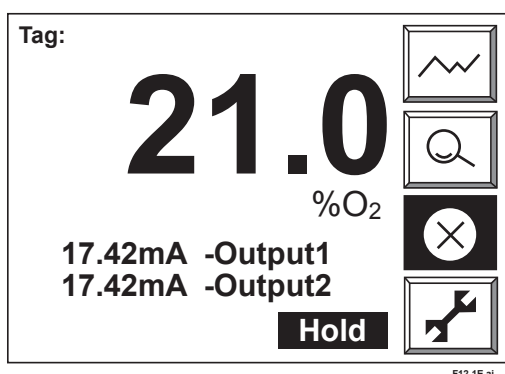
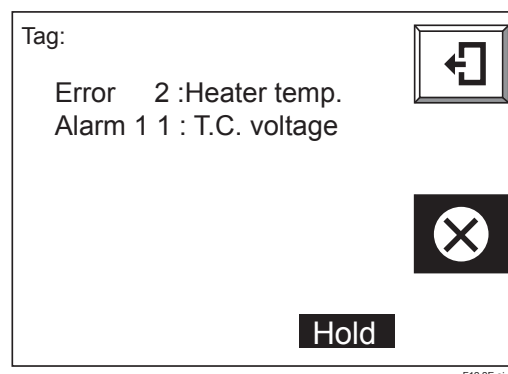

Figure 12.1
Figure 12.2
- (1) Stops the supply of power to the heater in the detector to insure system safety.
- (2) Causes an error indication in the display to start blinking to notify of an error generation (Figure 12.1).
- (3) Sends an output contact if the error is set up for Output contact setup for that contact (refer to Section 8.4, Output Contact Setup).
- (4) Changes the analog output status to the one set in Output hold setting. (refer to Section 8.2, Output Hold Setting).
When the display shown in Figure 12.1 appears, pressing the error indication brings up a description of the error (Figure 12.2). The content of errors that are displayed include those shown in Table 12.1.